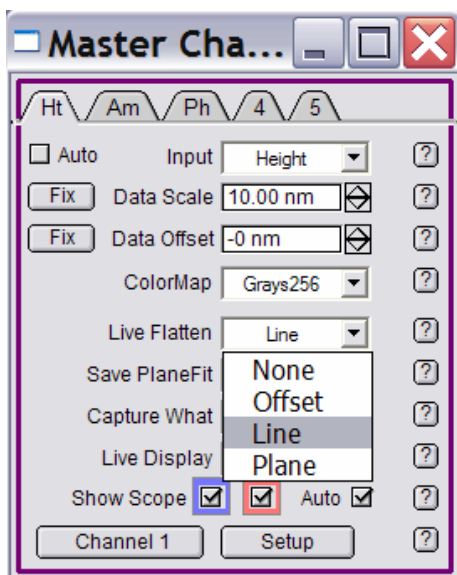

Figure 7: Flattening options
- 'Live Flatten' options can also be selected from pull down menu (Figure 7). Similar pull downs exist for 'Save Planefit'.